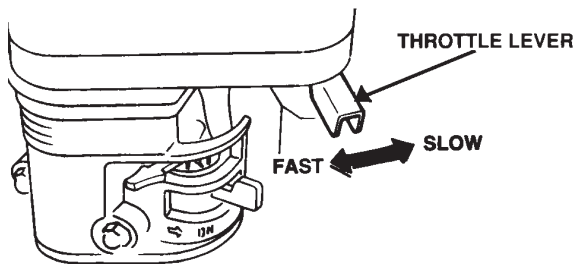

Figure 30. Throttle Lever
2. Place the **engine throttle lever** (Figure 30) in the **SLOW** position, and listen for the engine speed to decrease.